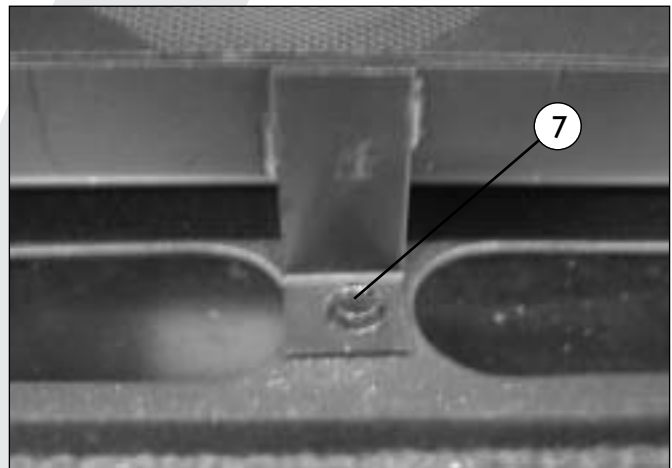

fig. 5
- Remove the burner tray by unscrewing the 4 self-tapping screws (7), (fig.5).